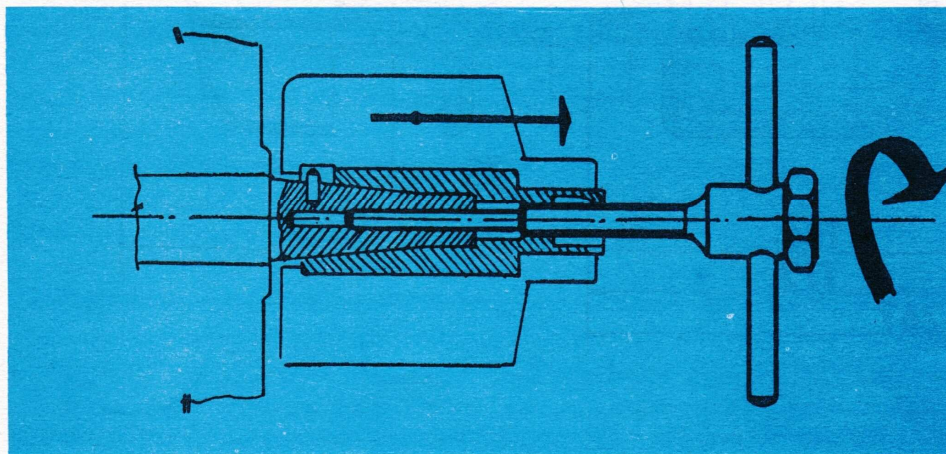

Fig. 14 - Extraction of general rotor
- c) rotor - fixture No. 09 (fig. 14)